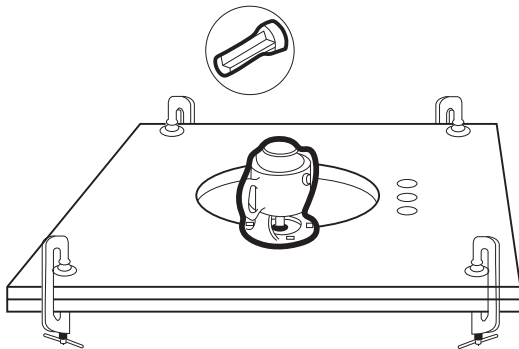

Figure C-5
- Use a 1400W-2200W router with a 30 mm template guide and a 10 mm TCT, single-flute cutter (Figure C-5).